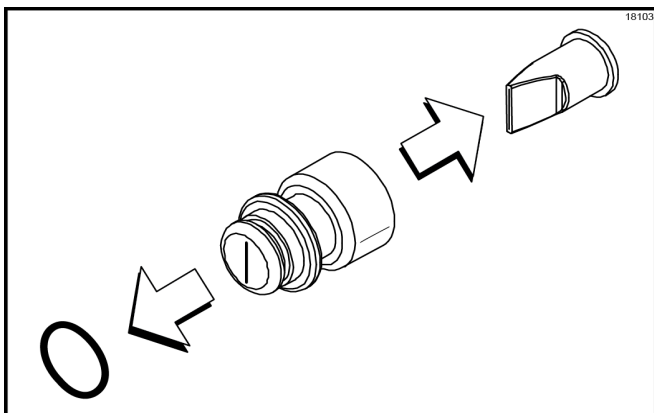

Figure-29
10. Remove the duckbill valve and O-ring from the syrup nose fitting. (See Figure-29.)